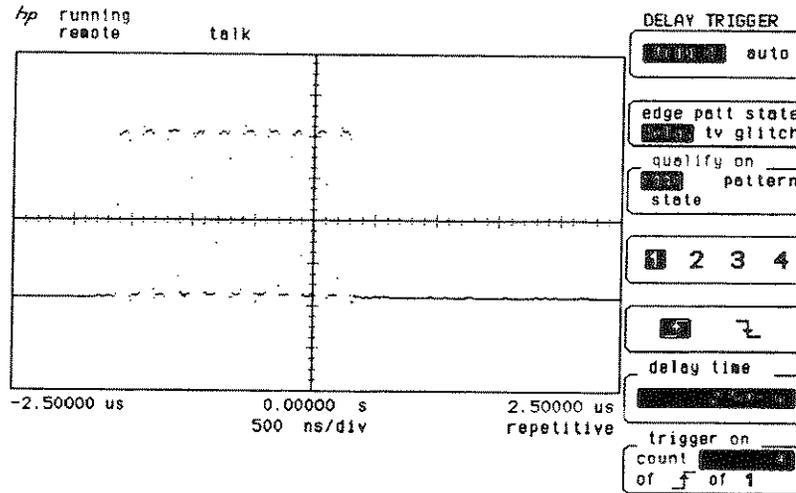

Figure 6-17. Ten Burst Pulse Triggered on Pulse 9
- Change the trigger on count key to 9 (see Figure 6-17).